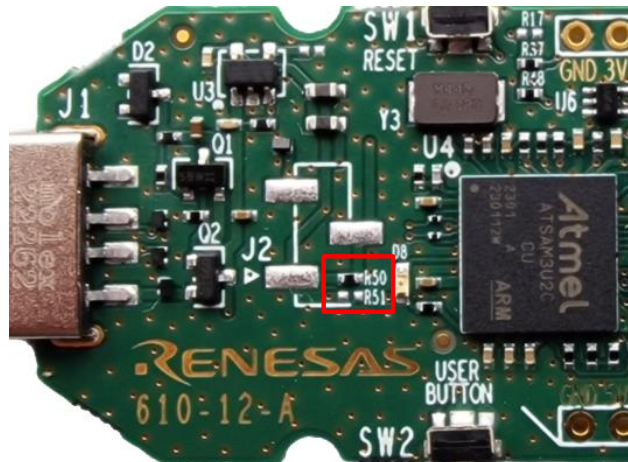

Figure 28. Resistors R50 and R51
3. Remove R50 and place R51, or move the jumper from position 1-2 to position 2-3, if pin header J2 is installed (Figure 28).